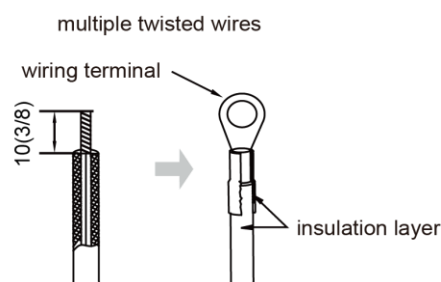

Fig. 5.1.2
- (2) The connection of stranded wire (as shown in Fig. 5.1.2)